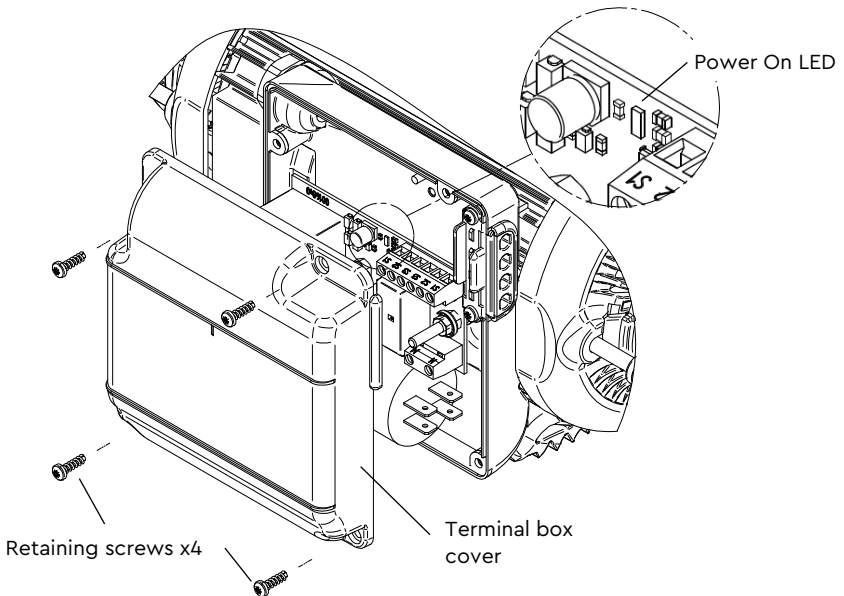

Figure 20
2. Remove the four screws retaining the terminal box lid (Figure 20).